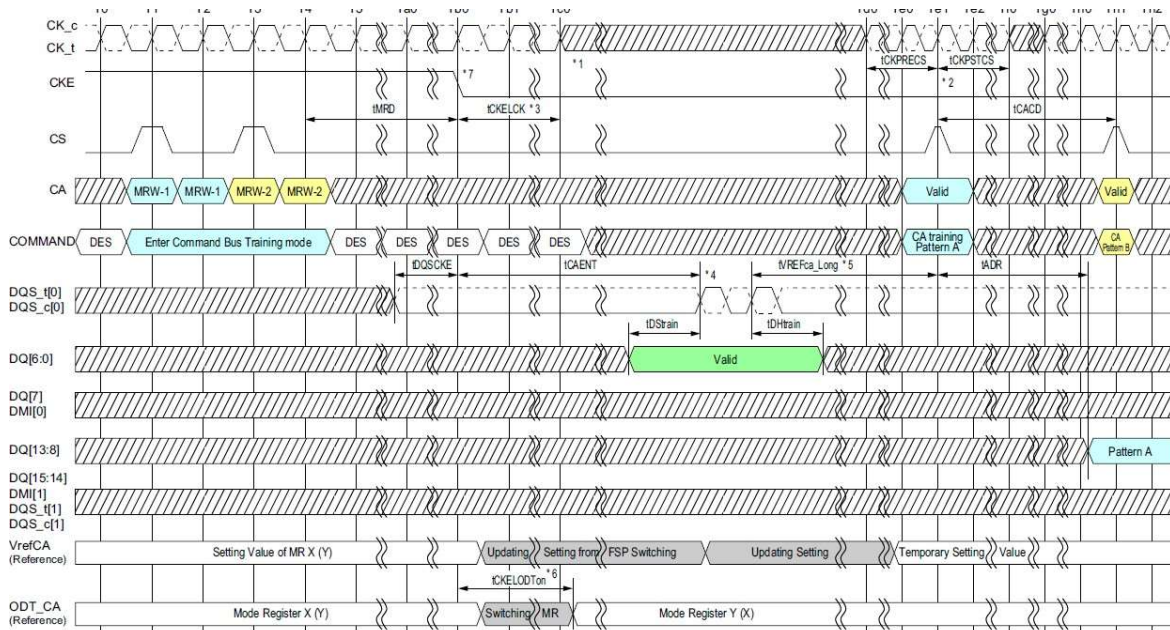

Figure 99 - Entering Command Bus Training Mode and CA Training Pattern Input and Output
The LPDDR4-SDRAM uses Frequency Set-Points to enable multiple operating settings for the die. The LPDDR4-SDRAM defaults to FSP-OP[0] at power-up, which has the default settings to operate in un-terminated, low-frequency environments. Prior to training, the mode register settings should be configured by setting MR13 OP[6]=1B (FSP-WR[1]) and setting all other mode register bits for FSP-OP[1] to the desired settings for high-frequency operation. Prior to entering Command Bus Training, the SDRAM will be operating from FSP-OP[x]. Upon Command Bus Training entry when CKE is driven LOW, the LPDDR4-SDRAM will automatically switch to the alternate FSP register set (FSP-OP[y]) and use the alternate register settings during training (See note 6 in Figure 99 for more information on FSP-OP register sets). Upon training exit when CKE is driven HIGH, the LPDDR4-SDRAM will automatically switch back to the original FSP register set (FSP-OP[x]), returning to the “known-good” state that was operating prior to training. The training values for VREF(CA) are not retained by the DRAM in FSP-OP[y] registers, and must be written to the registers after training exit.